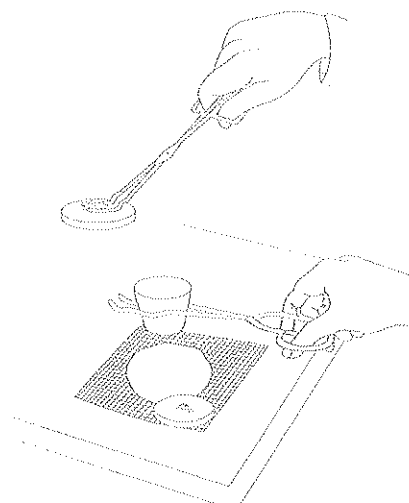

Figure 2.
5. Using crucible tongs, remove the crucible cover and place it on wire gauze on the bench top. With the tongs, remove the crucible from the clay triangle and place it on the wire gauze as well (see Figure 2).